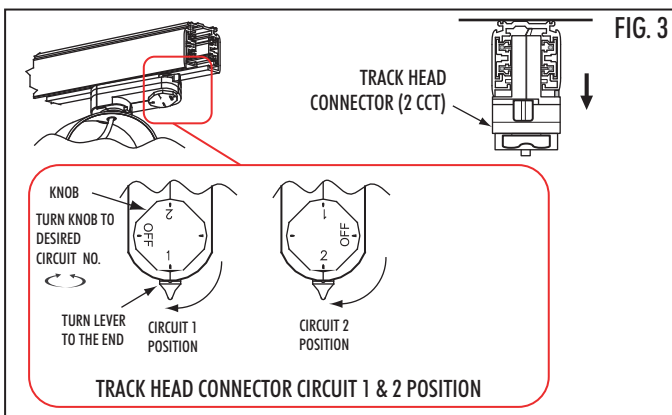

FIG. 3
9. Install the fixtures Track Head Connector into the Track (FIG. 2) at the desired location and turn the Lever on the Track head to the end of the Track Head (FIG. 3).
10. Turn the Track Head Knob to the desired circuit position (FIG. 3).